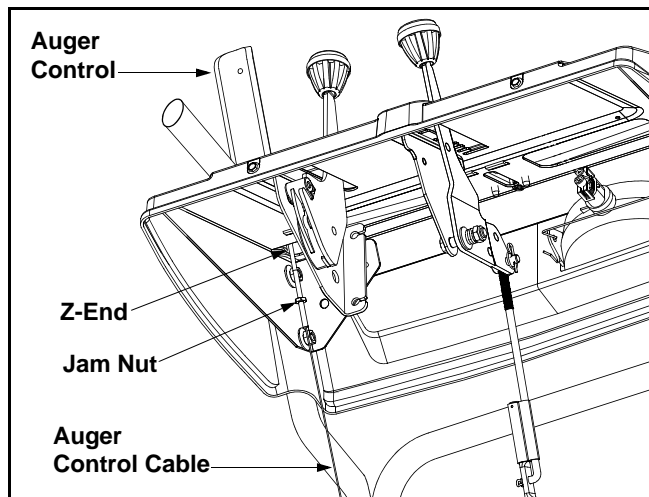

Figure 7
- Allow the auger to remain engaged for approximately ten (10) seconds before releasing the auger control. Repeat this several times.
- Retighten the hex jam nut. See Figure 7.